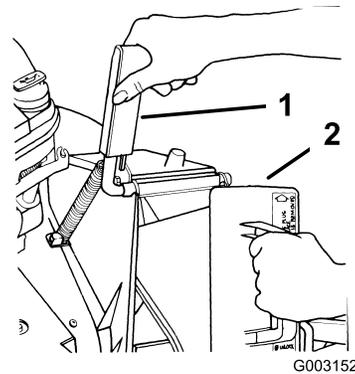

Figure 5
- Open the discharge door by pulling forward on the handle and moving it rearward (Figure 5). Hold the discharge door handle to prevent the spring-loaded door from closing while you insert the plug.
- Since the plug is slightly wider than the discharge tunnel opening, rotate the plug clockwise slightly while inserting it (Figure 5).